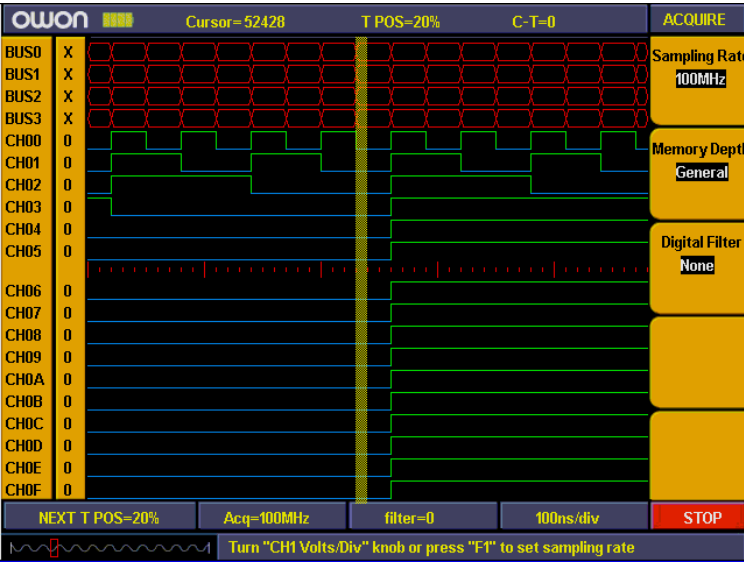

Fig. 5-53: Sampling setting
- Then sample system setting finished (refer to Fig.5-53).